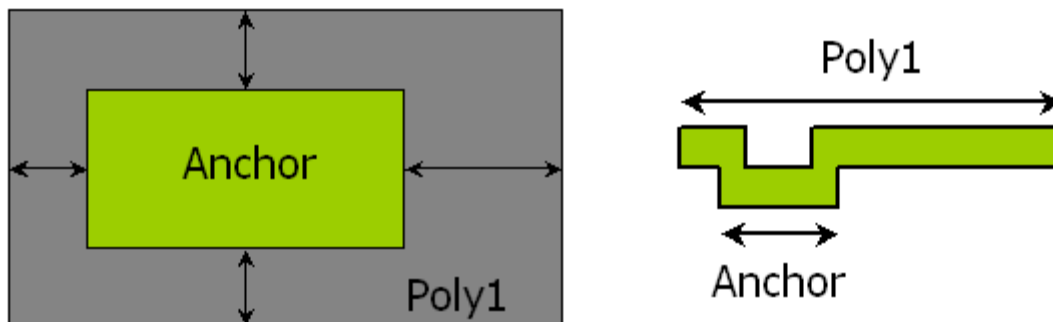

Figure 60: Anchor enclosed by Poly1 layer
- Anchor layer must be completely surrounded by the Poly1 layer by a minimum of 4 um (Figure 60).